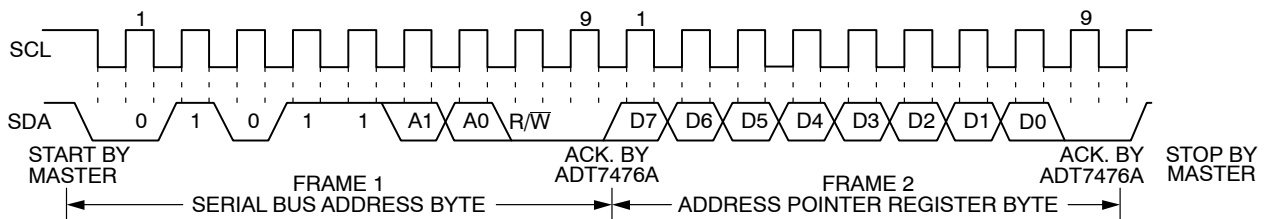

Figure 19. Writing to the Address Pointer Register Only
1. If the ADT7476A's address pointer register value is unknown, or not the desired value, then it must first be set to the correct value before data can be read from the desired data register. This is done by performing a write to the ADT7476A as before, but only the data byte containing the register address is sent, because no data is written to the register (see Figure 19).